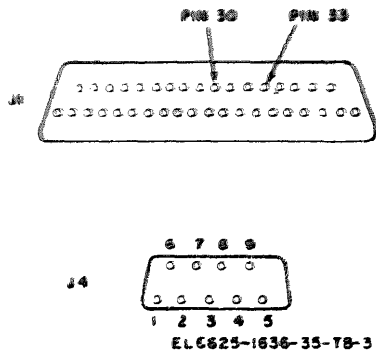

Figure 3. Test instrument connectors J1 and J4
(1) Position the test instrument controls as follows:
(2) Connect electronic voltmeter (A1) to connector J1, pin 33 (fig. 3) and chassis ground using test lead set (B4).
(1) Set test instrument (or Discriminator Panel) in an upright position.
(2) Connect meter test set (A3) to the appropriate pin (fig. 3) of connector J4 (common to ground) as shown in table 3.
(3) Turn the test instrument **CIRCUIT SELEC-TOR** switch to the positions as shown in table 3.
(4) Adjust the meter test set for a full-scale indication to the left on the test instrument meter.